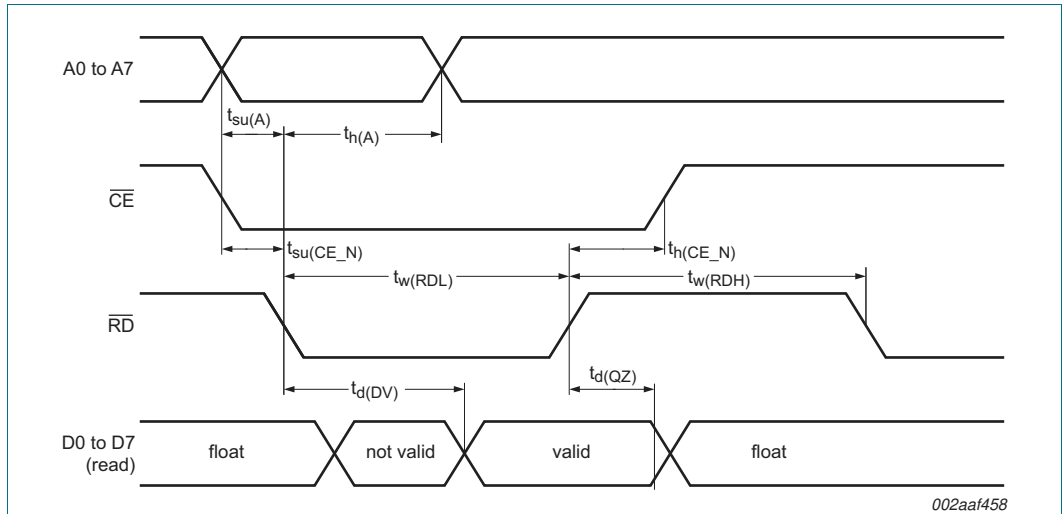

Fig 23. Bus timing (read cycle)
Bus timing (see Figure 23 and Figure 25)
- [2] All voltage measurements are referenced to ground (V_{SS}). For testing, all inputs swing between 0 V and 3.0 V with a transition time of 5 ns maximum. All time measurements are referenced at input voltages of 1.5 V and output voltages shown in Figure 23 and Figure 25.